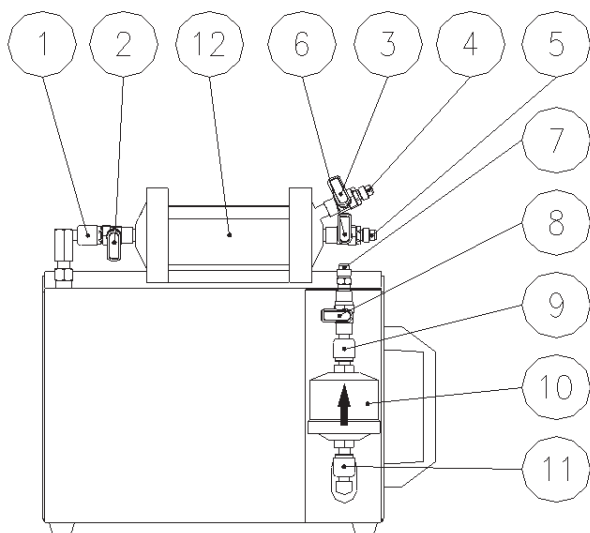

fig. 001
- Close the valves ②, ③ and ⑥ and remove the inspector from the flushing kit.
- Connect the red hose ⑰ from the scope of delivery *fig. 001* to the valve ②.
- Connect the blue hose ⑱ from the scope of delivery *fig. 001* to the valve ⑤.
- Connect the red high-pressure hose of the inspector to the **high-pressure service port** of the vehicle's A/C system (use the adapters 15-18 *fig. 001* for R134a systems).